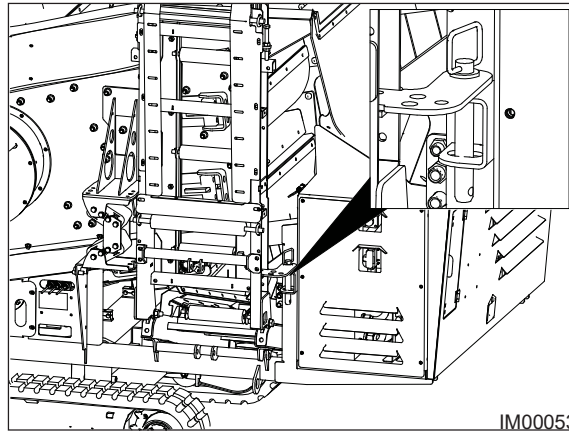

Fig: 7.11 - Transport Pin
2. Remove the transport pin (Fig: 7.11).